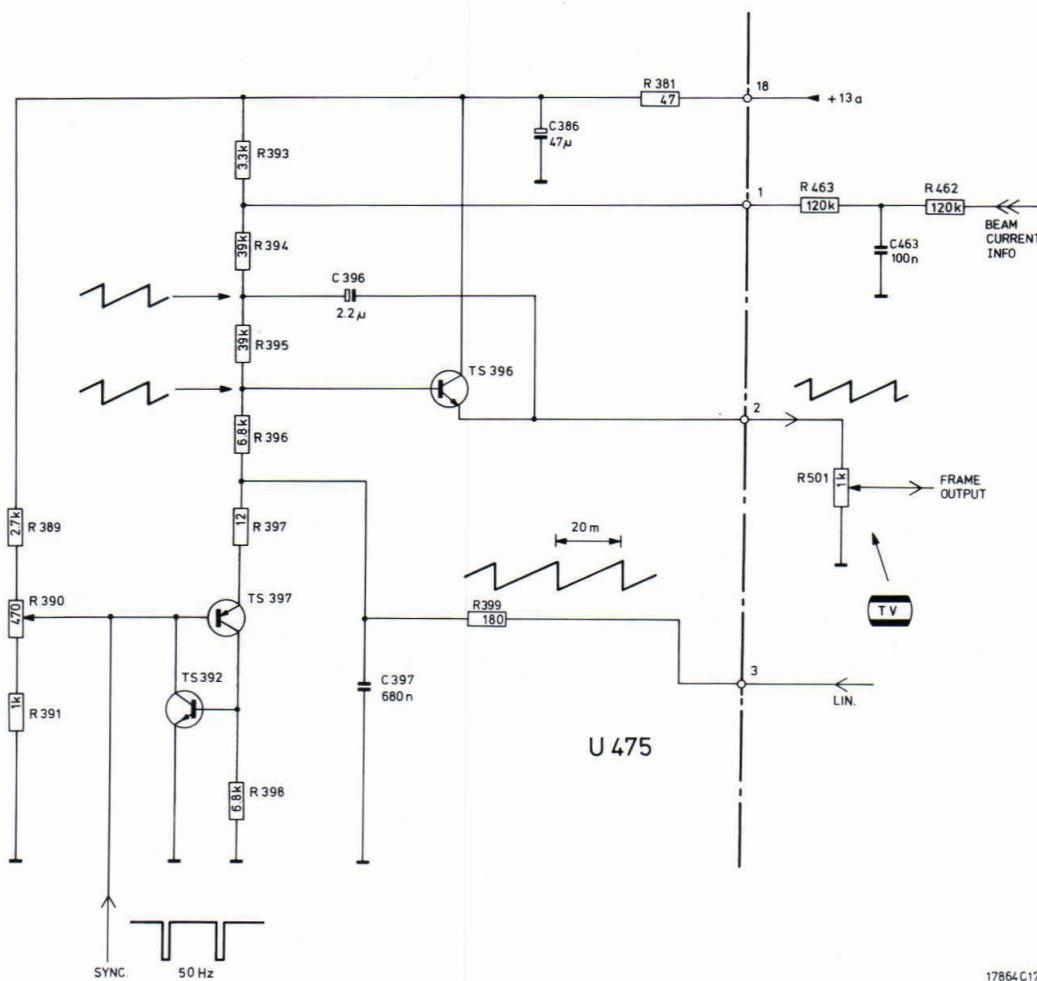

Fig. VIII-23
7. De rasteroscillator (Fig. VIII-23)